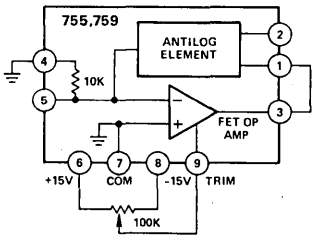

Figure 3. Trimming  $E_{OS}$  in Log Mode
**Trimming  $E_{OS}$**  – The amplifier's offset voltage,  $E_{OS}$ , may be trimmed for improved accuracy with the models 755, 759 connected in its log circuit. To accomplish this, a 100k $\Omega$ , 10 turn pot is connected as shown in Figure 3. The input terminal, Pin 4, is connected to ground. Under these conditions the output voltage is: